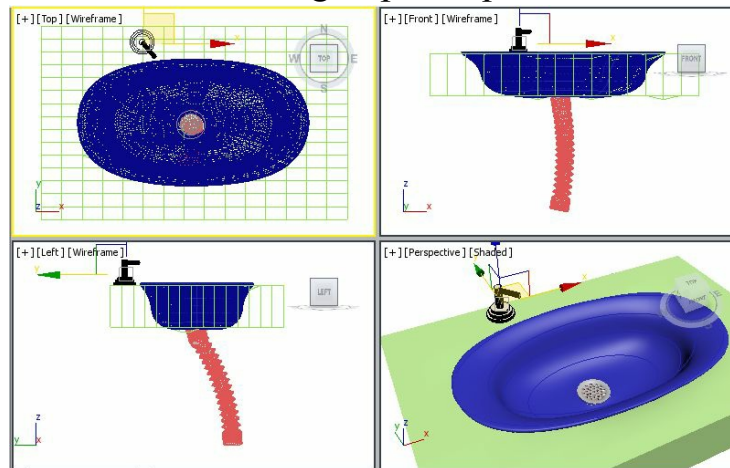

Figure 10-76 The tap01 geometry created and aligned in viewports
3. Align the cylinders using the **Select and Move** and **Select and Rotate** tools, as shown in Figure 10-76. Also, group all of them and name the group as *tap01*.